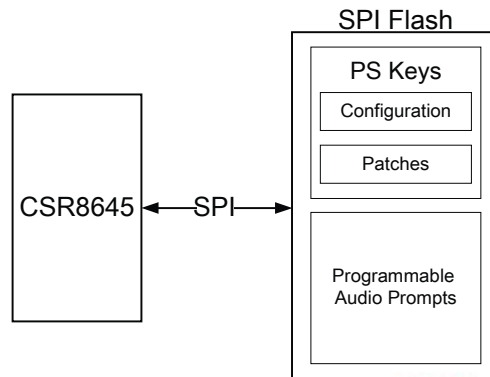

Figure 17.1: Programmable Audio Prompts in External SPI Flash
- An external SPI flash, in this implementation the prompts are stored in the same SPI flash as the PS Keys, see Figure 17.1.